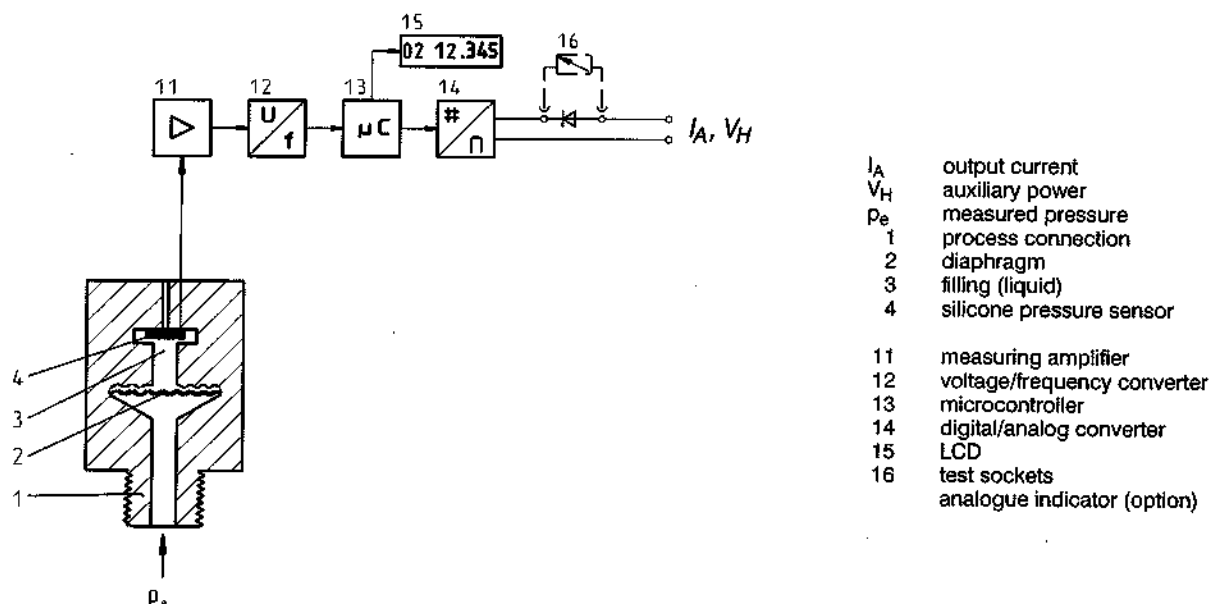

Figure 1.1 SITRANS P pressure transmitter, function diagram
Pressure is transmitted to a silicone pressure sensor (4, see Figure 1.1) through a diaphragm (2) and a liquid filling (3). The pressure causes the sensor's measuring diaphragm to distort. The resistance of four doped piezo-resistors in a bridge circuit in the measuring diaphragm changes. This change in resistance generates an output voltage in the bridge circuit that is proportional to the measured pressure. This voltage is converted into a periodic signal by an amplifier (11) in a voltage/frequency converter (12). A microcontroller (13) evaluates the signal, corrects it with respect to linearity and temperature before passing it on to a digital/analogue converter, which converts it into a 4 – 20 mA output current.